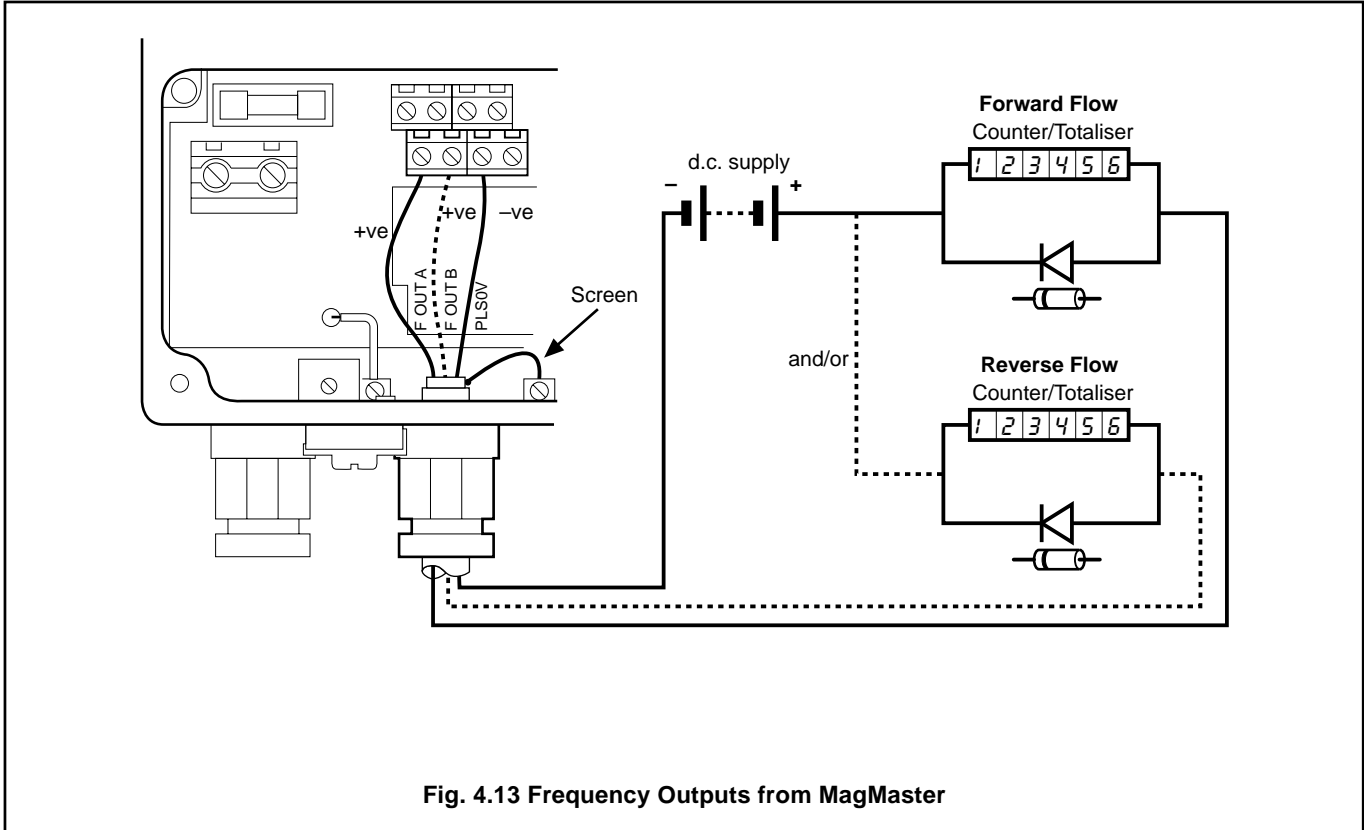

Fig. 4.13 Frequency Outputs from MagMaster
#### 4.4.4 Frequency Outputs – Fig. 4.13
**4.4.6 Computer Connection (RS422) – Fig. 4.13**